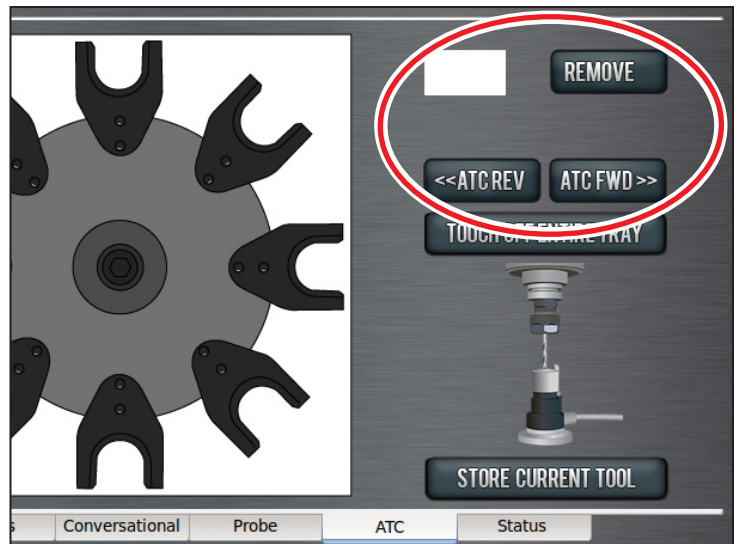

Figure 36
1. From the PathPilot interface, on the *ATC* tab, type the tool number in the *Remove* DRO field (see **Figure 36**). Press *Enter* on the keyboard.
2. Click the *Remove* button (see **Figure 36**).
4. From the *ATC* tab, click the *ATC FWD* button or the *ATC REV* button (see **Figure 36**).